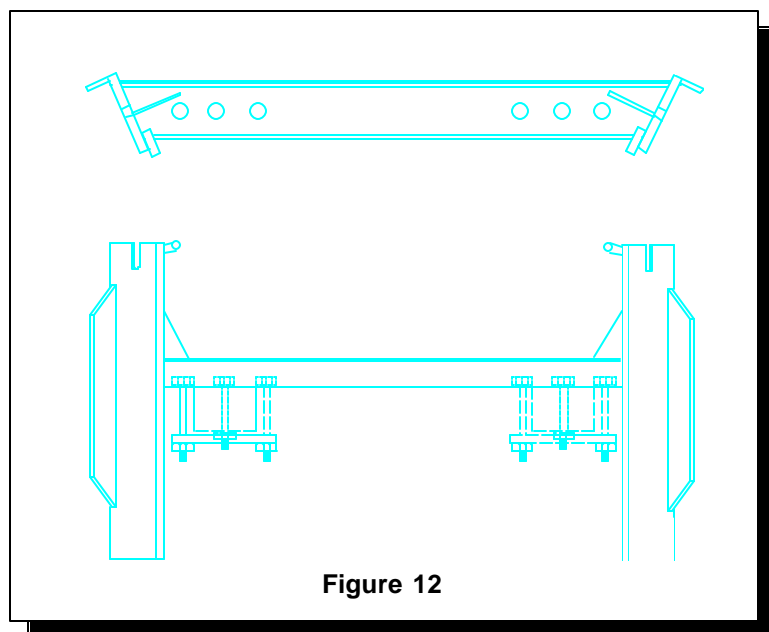
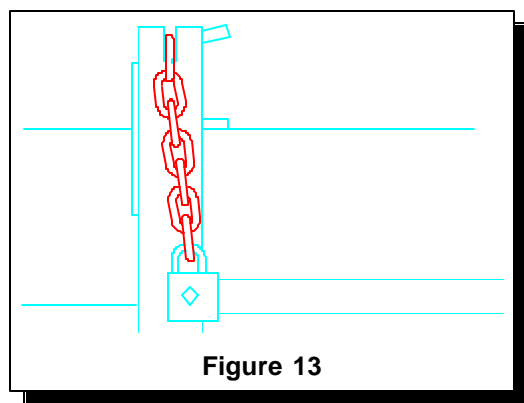

Figure 12
Figure 13
- 1 Drill a hole through the adapter crossmember on each side of the frame rail, "sandwiching" the "A" frame between the crossmember and a piece of 1/4" flat stock. Fasten with appropriately sized bolts (not supplied). See Figure 12.
- 2 Drilling a single hole through the crossmember into the frame rail, **Figure 13** fasten using an appropriately sized bolt. See Figure 12.
In order to adapt the hook-up to allow your surge brakes to operate, place the Surge Pole Tongue Adapter on the frame "pole" approximately an inch to the rear of the normal chain bracket placement. The chain should be angled toward the trailer, giving the brake room to surge forward. See **Figure 13**. Make certain that you have plenty of tension on the spring bars to guard against the bar backing out of the ball mount. If you pull your horse trailer or boat trailer empty, follow the guidelines noted for LIGHTWEIGHT TRAILERS in securing the spring bars.